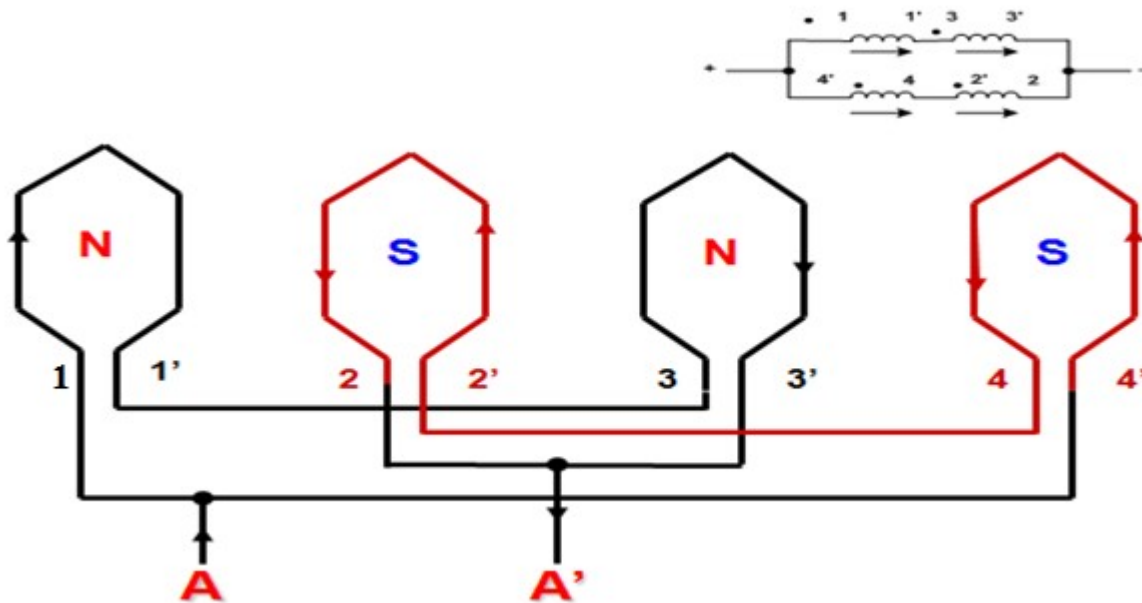

Figure 3-26 Four pole (Parallel)
- If the **current in coils 2 and 4 is reversed** and the connection is changed **to parallel with two coils (1 and 3, and 2 and 4)** connected in series for each path, four poles are formed in the stator shown in fig.3-26 below